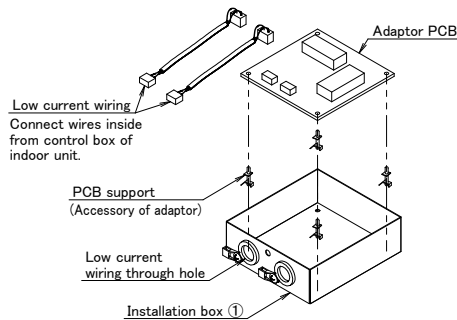

Figure 2
- (2) Connect wires with the adaptor before attaching to the installation box (1). (Refer to Figure 2)